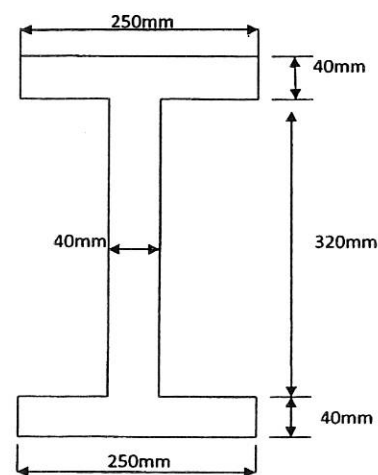

Figure 4
- b) A 5m steel beam having an I- cross section as shown in Figure 4 is simply supported at its ends. The tensile stress in the beam must not exceed 25MN/m². Determine the maximum uniformly distributed load, w that can be supported by the entire beam.